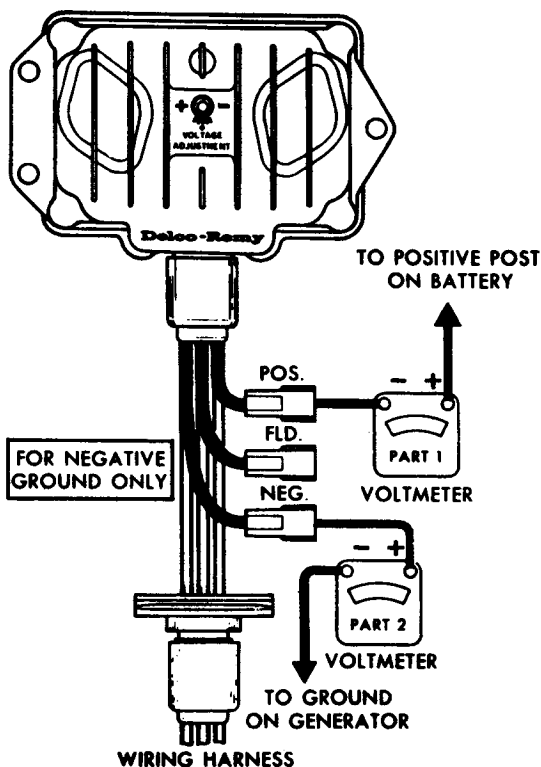

Figure 13—Voltmeter connections to test adapter for negative ground circuits only.
- 1a. For negative ground systems, connect a voltmeter as shown in Part 1 and Part 2 in Figure 13.